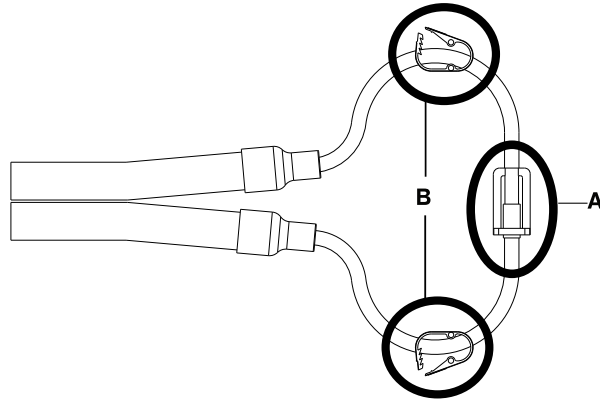

Figure 1-27: Clik-Tite hose ends are closed and clamps are open
- If you have **Clik-Tite** hoses, make sure that the connector ends are connected and closed (A), and clamps are open (B). Complete this for all three hoses. Figure 1-27 on page 1-42